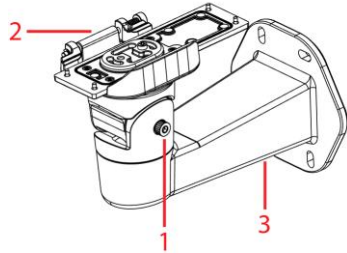

Figure 8
- B. Unscrew the M5 Hex socket cap screw (1) (Figure 8) to remove the mounting arm plate (2) (Figure 8) from the mounting arm (3) (Figure 8).